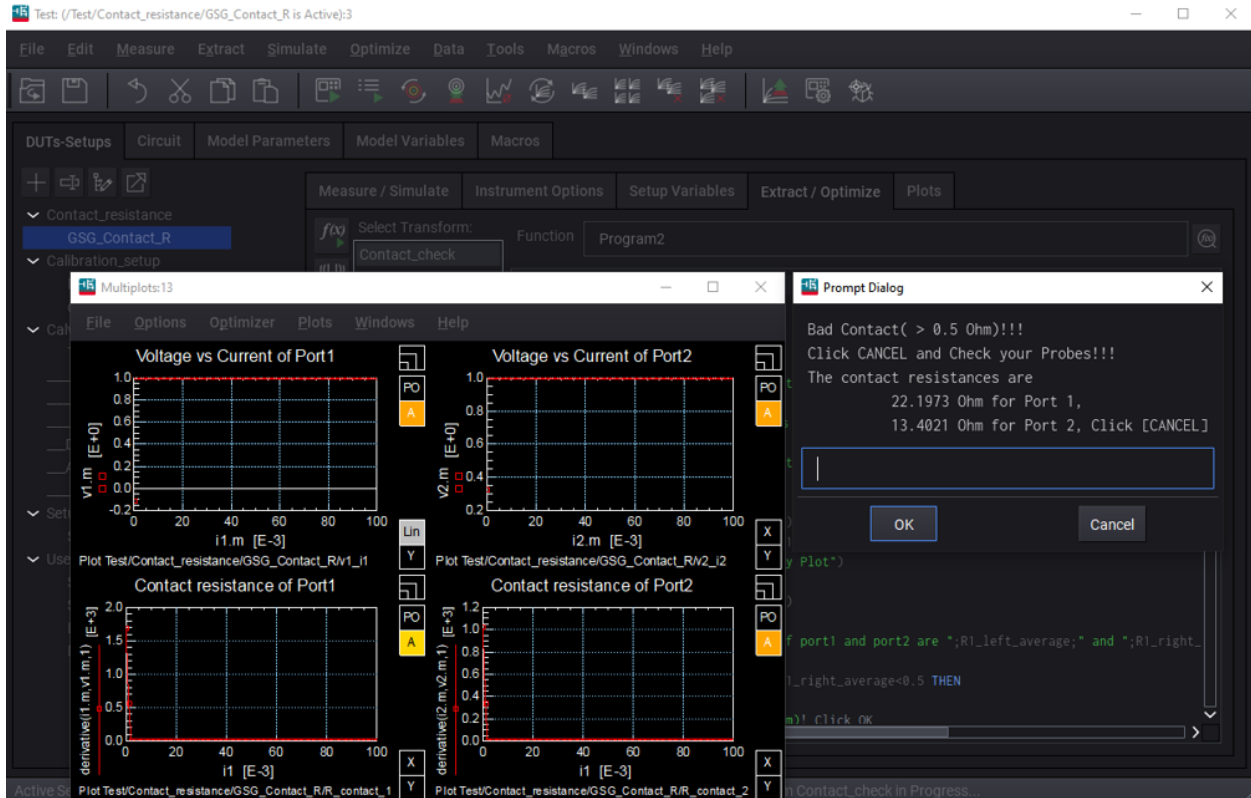

Fig. 7.5. Measured contact resistances.
7.10 After the measurement is completed in a few seconds, the "Multiplots" window pops up and the "Prompt Dialog" shows up again with new messages as shown in Fig. 7.5. "Multiplots" plots the V-I characteristics and $\partial V/\partial I$ slopes (resistances) of Port 1 and Port 2, while "Prompt Dialog" reports contact-resistance values of each port. (In microwave terminology, a "port" is generally formed by two terminals such as the signal and ground terminals of a coaxial cable or a microstrip/coplanar transmission line. Usually, Port 1 is the input on the left, while Port 2 is the output on the right. For example, a 3-terminal transistor in a common-source configuration can be a 2-port microwave device, so that Port 1 is formed between the gate and source while Port 2 is formed between the drain and source.) If the contact resistances are less than 0.5Ω , you should see "Congrats, Contact Consistency Check Passed!!!," so you can move on to the next step by clicking on "OK." Otherwise, check your probes, the alignment, and the overtravel, and clicking on "OK" and double click on "Contact_check" again to repeat it. If the problem persists, discuss it with the tool owner or an expert user.